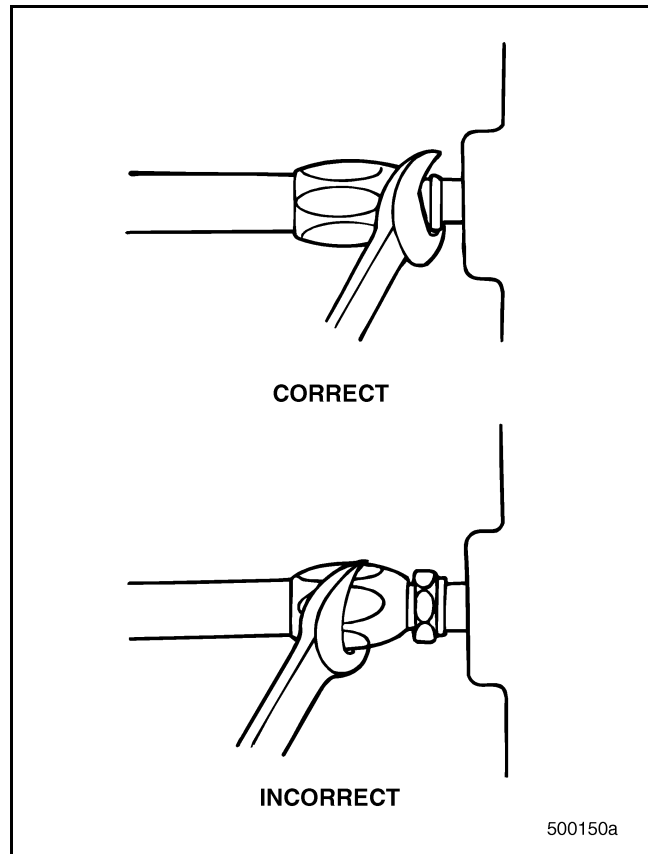

Figure 254 — Tightening Male-End Fittings
5. When installing male-end fittings, use the nipple hex, not the socket hex, to tighten the fitting. Refer to Figure 254.